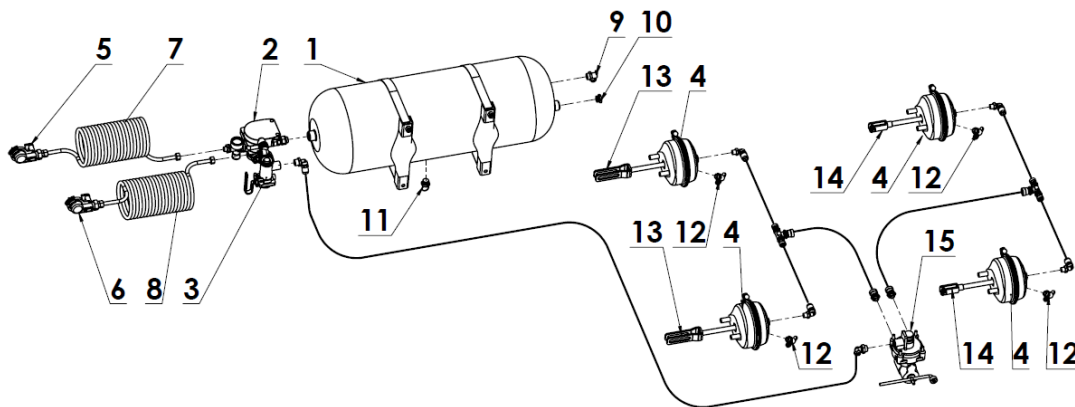

Figure 8 2-line pneumatic braking system with an ALB valve - N267/2 Spreaders:
- 2-line pneumatic braking system with a valve: N267/2 (Figure 8),